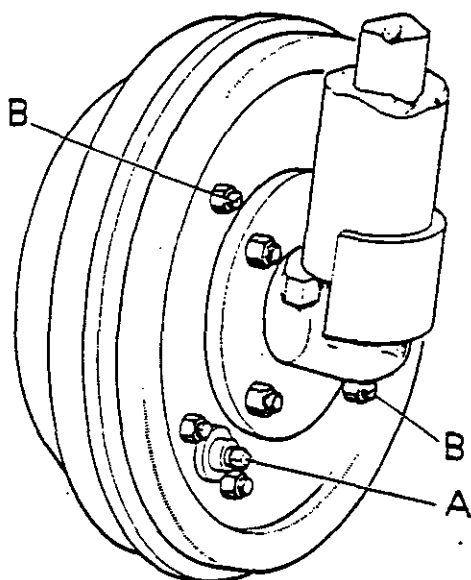

Figure 38. FRONT WHEEL BRAKE ADJUSTMENT
4. Turn the square-headed adjuster on inside of back-plate (Fig. 38) clockwise until brake starts to bind, then unscrew two "clicks". Check that wheel rotates freely then adjust the opposite side brake in the same manner. As the front brakes are hydraulic, and therefore fully compensating, it is not necessary to balance the adjustment. Do not attempt to adjust brakes by means of the two slotted studs on the back-plate. These are the brake shoe steady posts and must not be disturbed.